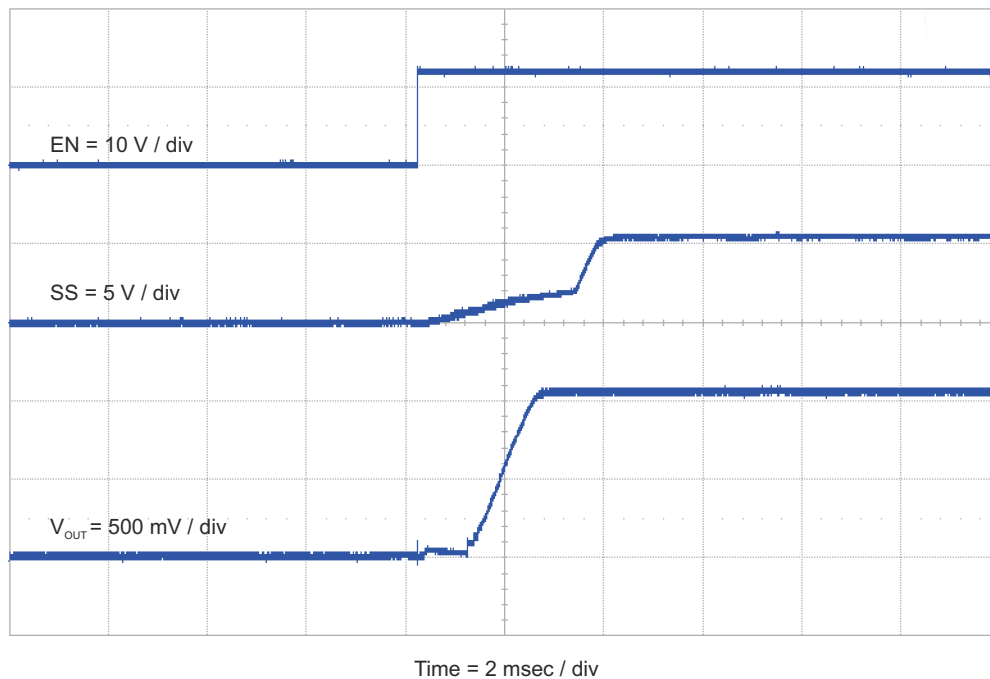

Figure 4-11. TPS54328EVM-686 Start-Up Relative to EN
The TPS54328EVM-686 start-up waveform relative to enable (EN) is shown in Figure 4-11.